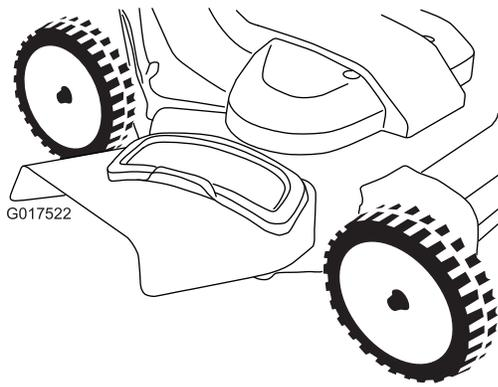

Figure 30
2. Install the side-discharge chute as shown in Figure 29 and Figure 30, and close the deflector onto the chute.